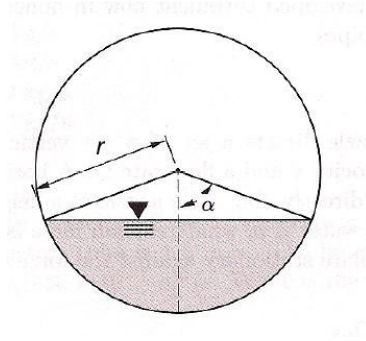

Figure 2: Circular channel flowing partially full.
6. (11 pts.) A partially-full pipe with a radius of  $r$  meters is depicted in Figure 2. The angle shown is  $\alpha = 70^\circ$